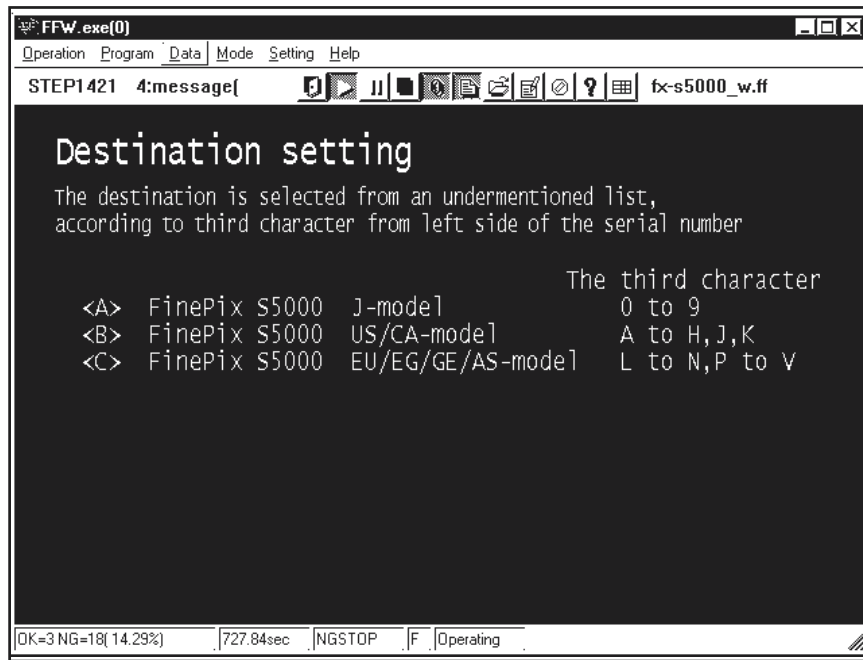

Fig.38
---> The **[Destination Setting Screen (Fig.38)]** is appears.